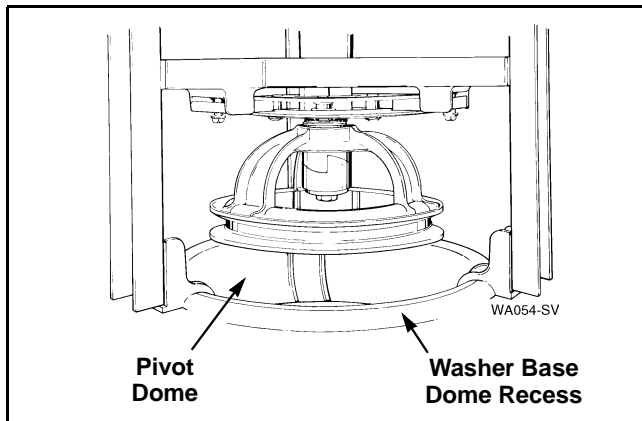

Figure 53
- d. Carefully place the tub module back into washer making sure the pivot dome is positioned properly in dome recess of the washer base. Refer to *Figure 53*.